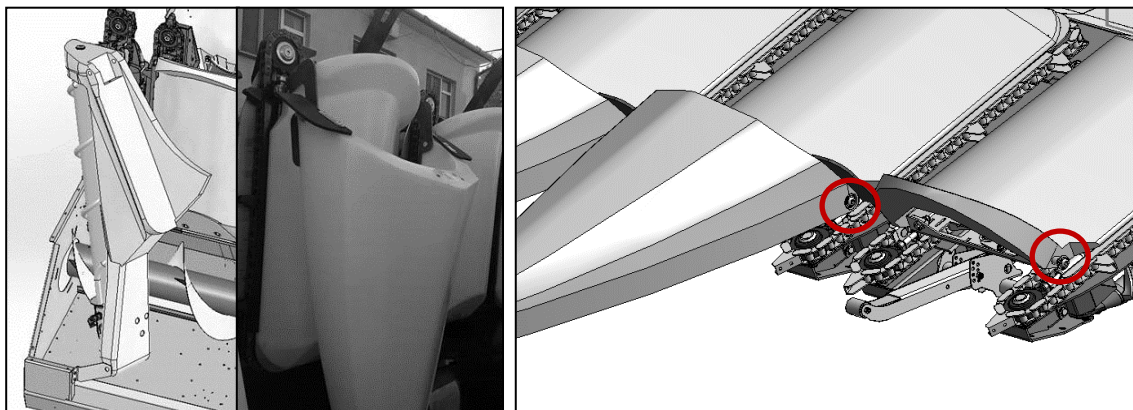

Figure 8: Snouts in shipping position (left), snout pivot hardware (circled, right).
- 7.1. Lift header and remove snouts from shipping position (Figure 8).